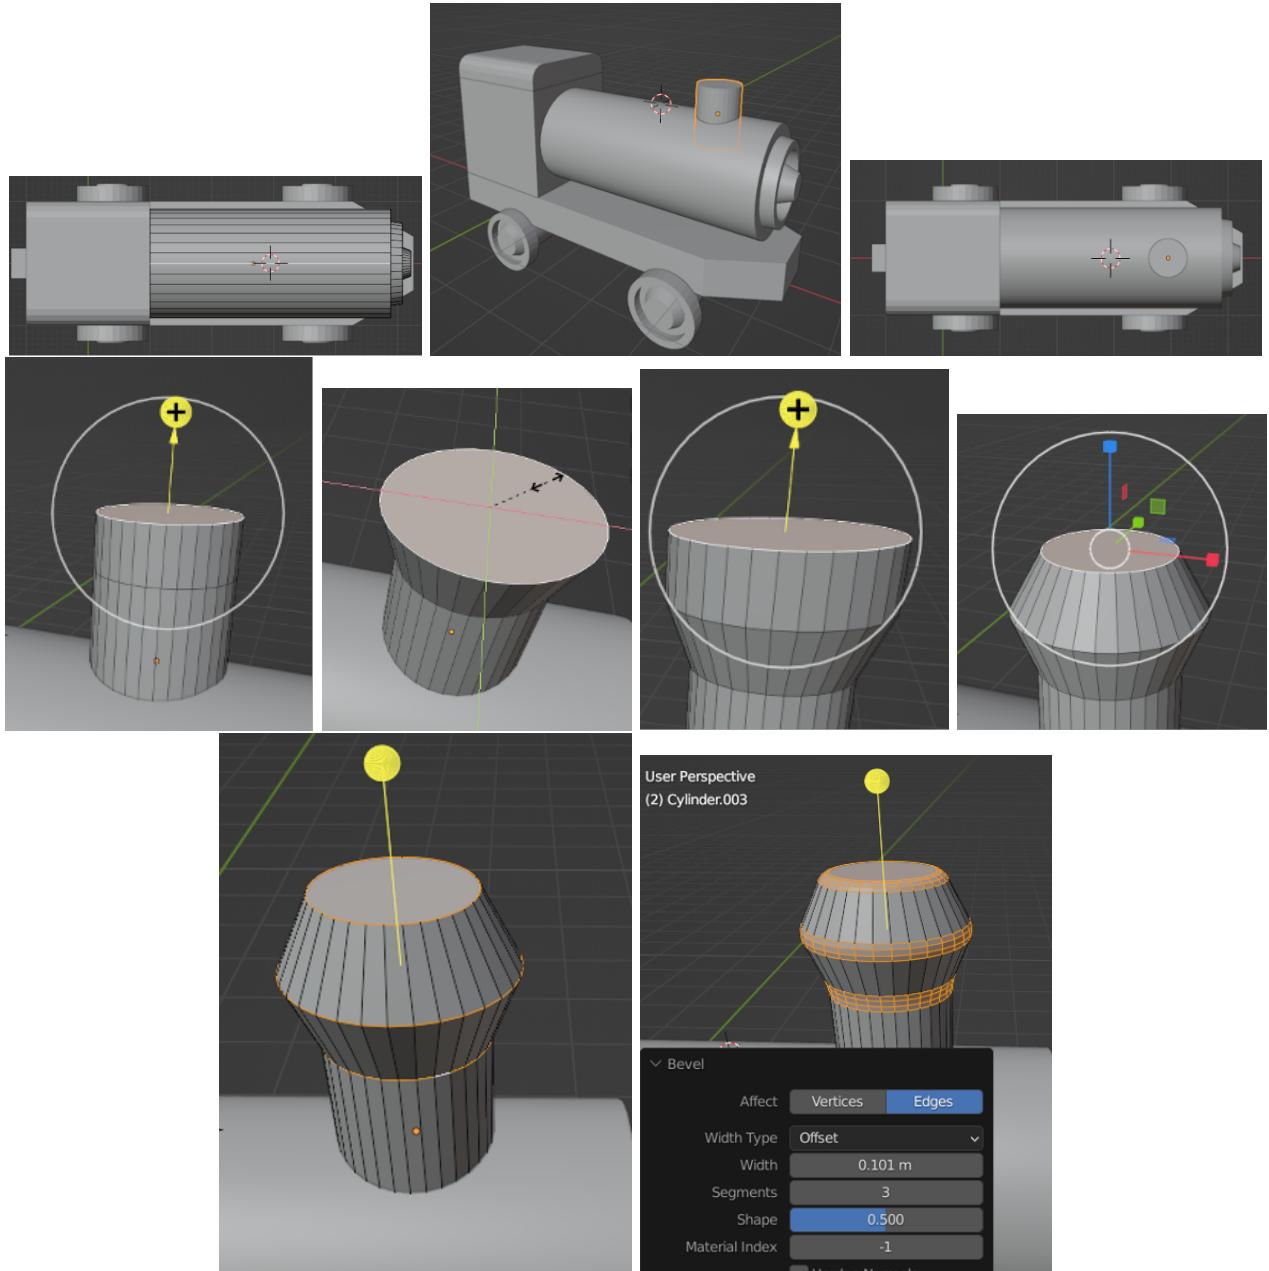

Figure 1.30: Modeling of the chimney.
- (a) Switch to *Object Mode*, select the smokebox and switch to *Edit Mode*. Switch on the top view, select the middle edge on the cylinder, and set the 3D Cursor on this edge (*Mesh/Snap/Cursor to Selected*) (see Fig.1.30, top row, left).
- (b) In *Object Mode*, insert a new cylinder, scale it, and move along the edge to the front of the train (see Fig.1.30, top row, center and right).
- (c) In *Edit Mode* extrude and scale the upper face of the chimney to form a shape presented in Fig.1.30 (third row).
- (d) Use the *Bevel tool* to bevel and round the chimney edges (see Fig.1.30, bottom row).